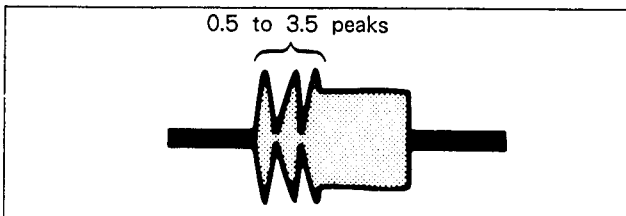

Fig. 7-72.
- 2) Confirm that the RF waveform on the entrance side has 0.5 to 3.5 peaks in this condition. If not, adjust as follows. (See Fig. 7-72.)